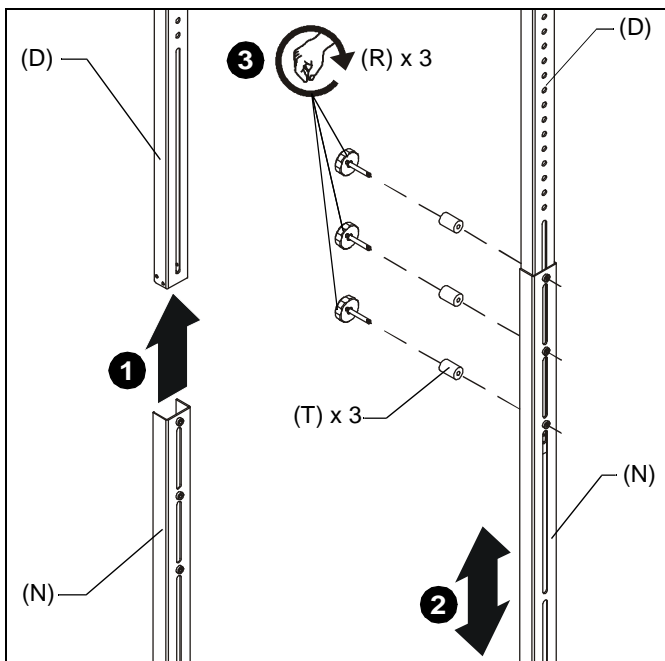

Figure 1
1. Slide adjustable leg (N) up over bottom of upright assembly (D). (See Figure 1)
2. Adjust leg (N) as necessary to set the correct length of entire leg assembly. (See Figure 1)
3. Fasten adjustable leg (N) in place using three knobs and three 1 1/8" spacers (T). (See Figure 1)
4. Repeat Steps 1 through 3 on the other upright assembly (D).